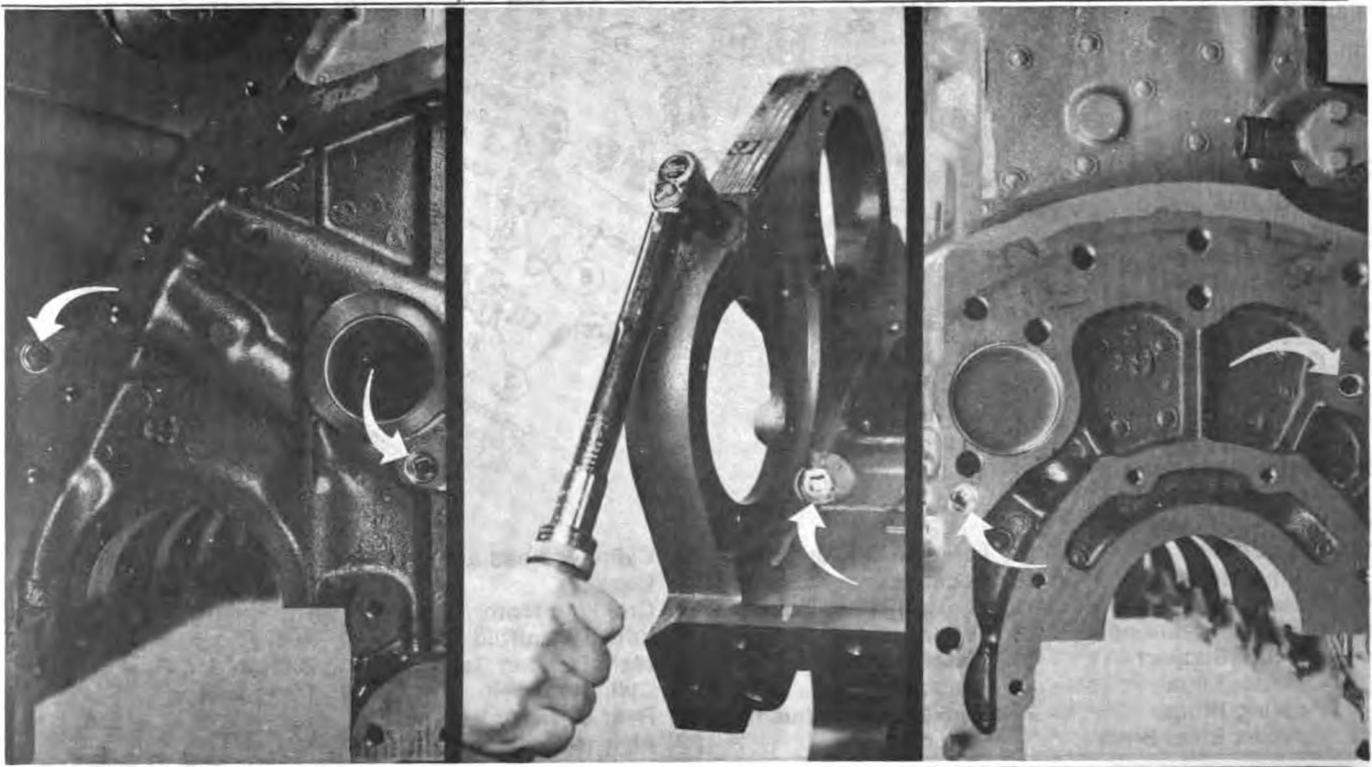

Fig. 14-1 (N114239). Install The Pipe Plugs.
2. Install the pipe plugs into the cylinder block, Fig. 14-1. Tighten the pipe plugs to the torque valves listed in Table 1.